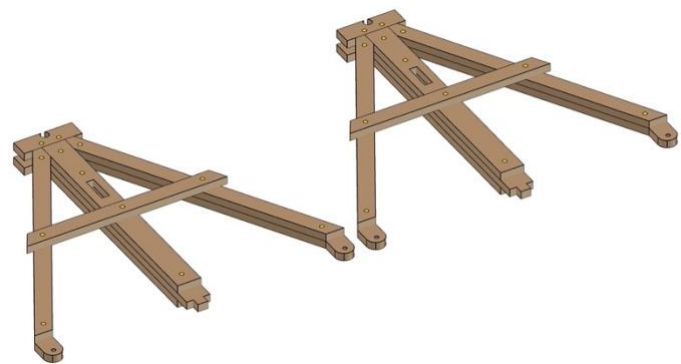

Fig. 52
- *Fig. 52* shows the completed process (make two parts).